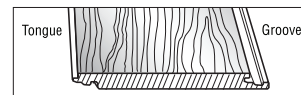

Figure 4
- Lay the first full piece with the small, tongue side facing the wall (Fig. 4).